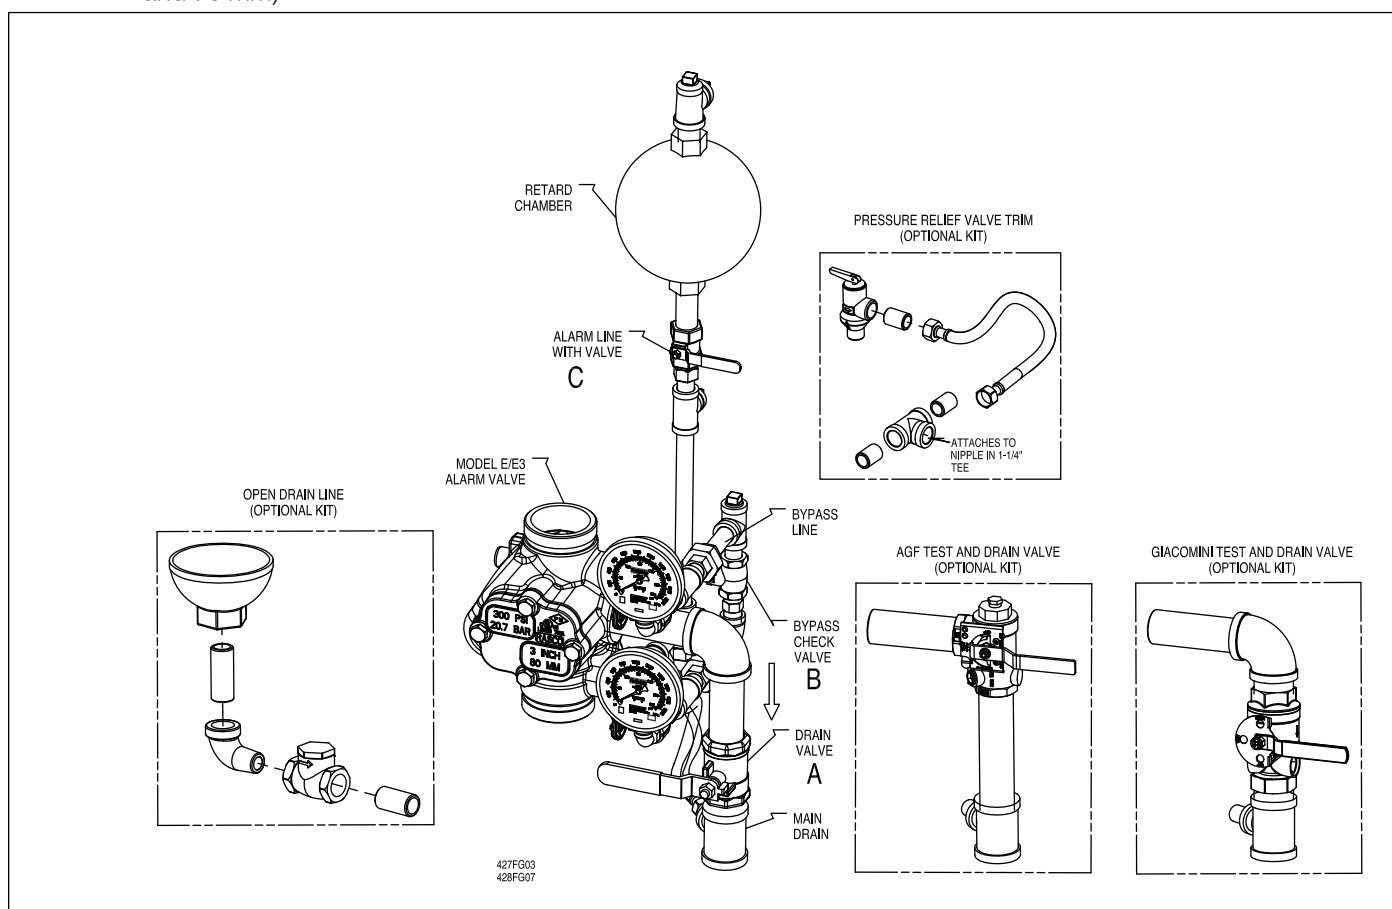

Fig. 3 - Vertical Trim
- a. The By-Pass connection with Check Valve (Figure 3 & 4) allows pressure surges from the supply to by-pass the Alarm Valve Clapper. An excess system pressure is thus created which steadies the Clapper. Should a heavy surge unseat the Clapper and permit water to flow into the alarm line, the Retard Chamber then comes into action.
The E3 trim sets for the Reliable Model E and Model E3 Alarm Valve (Figs. 3 & 4) are arranged for rapid, easy and compact attachment, and serve as connection points to Reliable alarm and other devices. They also act as a means for testing system operation. The Model E and E3 Alarm Valves are available with separate trim configurations for either vertical or horizontal installation and the following options:
- Variable Pressure with Open Retard Chamber Drain—Retard chamber is required. Optional Drain Line Kit required (see Figs. 3 & 4). This trim set is used where water supply pressures vary. An open drip cup is provided to drain the retard chamber and the mechanical sprinkler alarm line. This drain connection is piped directly into the 1¼" (32 mm) main drain line.
Note: A combination test and drain valve segment is optional, to be purchased separately, as a replacement to the Drain valve (see optional Kit in Figs. 3 & 4).
All trim sets can be fitted with an optional Pressure Relief Trim Kit (see optional kit in Figs. 3 & 4) to relieve pressures above 175 psi in the sprinkler system, as required by NFPA 13, 3-1.2.